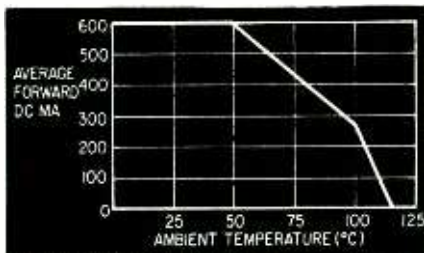

Fig. 2—Current derating graph shows how current capacity decreases as temperature goes up.
**Current Rating.** Silicon rectifiers, like all semiconductor devices, must be *current derated* as temperature rises beyond the normal. (Fig. 2). The derating curve for a typical unit rated 600 ma at 45°C (113°F) shows that the unit can be used to supply only 250 ma at 100°C. This is simply because a semiconductor device, used without an external heat sink, must dissipate the heat